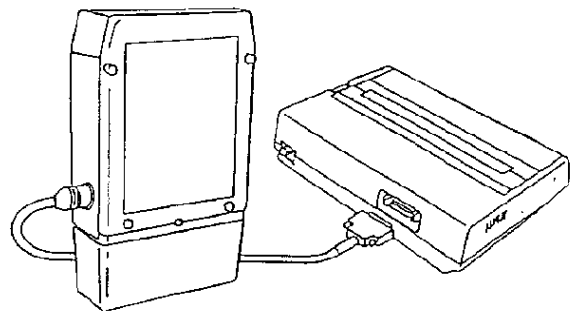

Figure 2-23: Connection to a Serial Printer
- Connect the cable between the OMNI-4000 and the printer or computer. See Figure 2-23